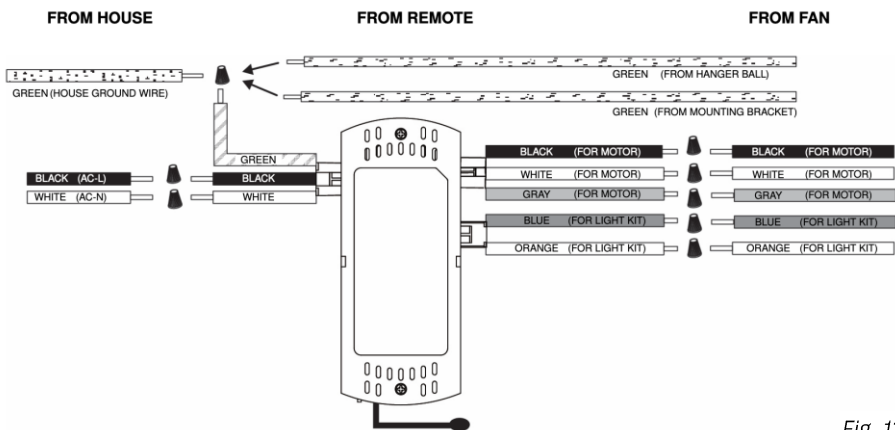

Fig. 13
4. Follow Fig. 13 to make the electrical connections.